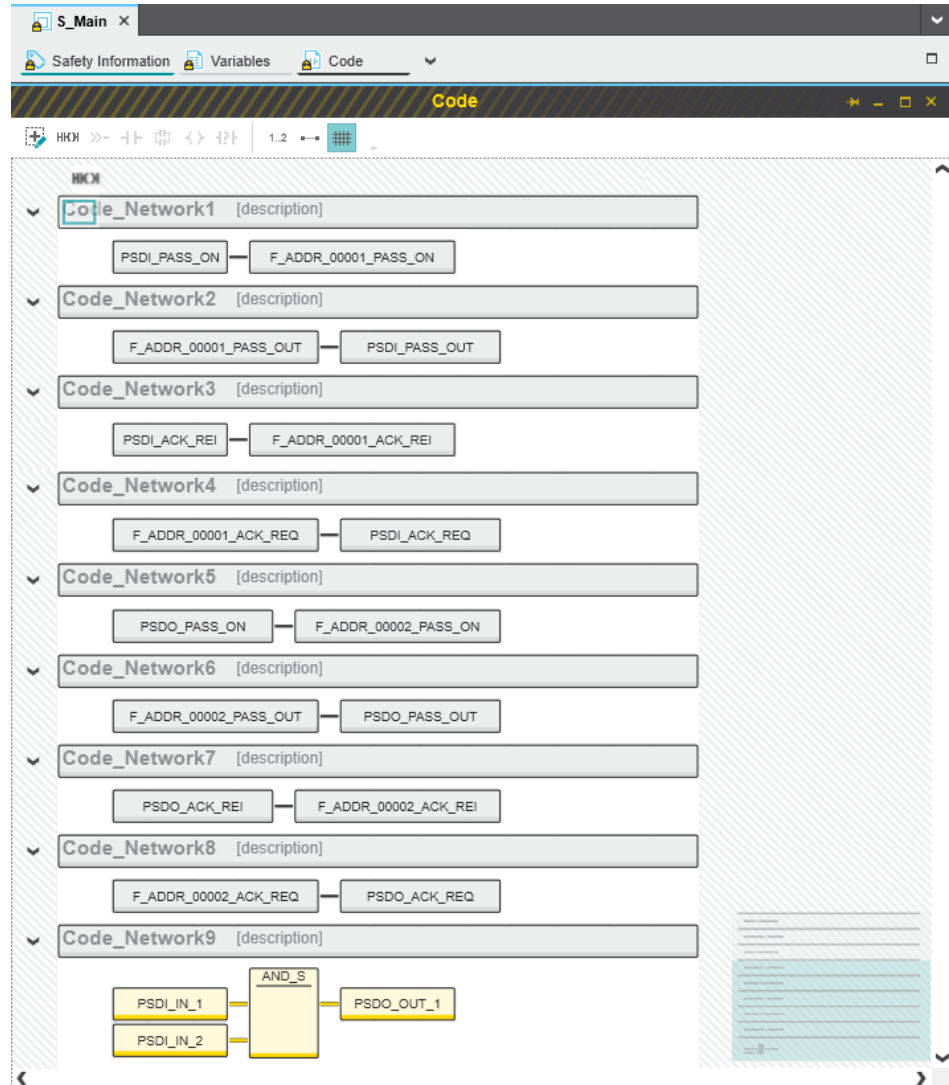

Figure 4-53 Safety-related example program
The safety-related example program in Figure 4-53 on page 130 involves safe logical AND-ing of two input variables. The result of the ANDing is connected to an output variable. The input/output variables are connected to process data in due course.
- Create the program as shown in Figure 4-53 on page 130.